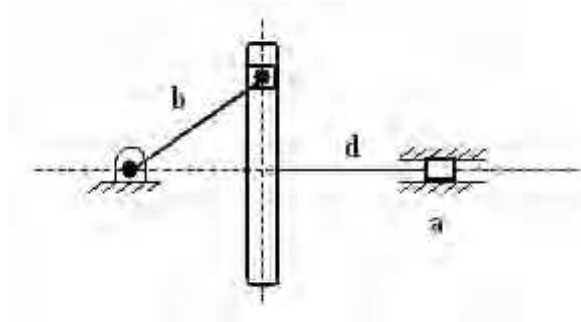

Figure 7
7. (a) Show that for the scotch yoke mechanism shown in figure 7 uniform rotation of the crank 'b' will produce simple harmonic motion of the slider 'd'.
(b) Name the inversion obtained by fixing link 'b' of the scotch yoke mechanism shown in figure 7. Describe the inversion with neat sketch. [7+8]